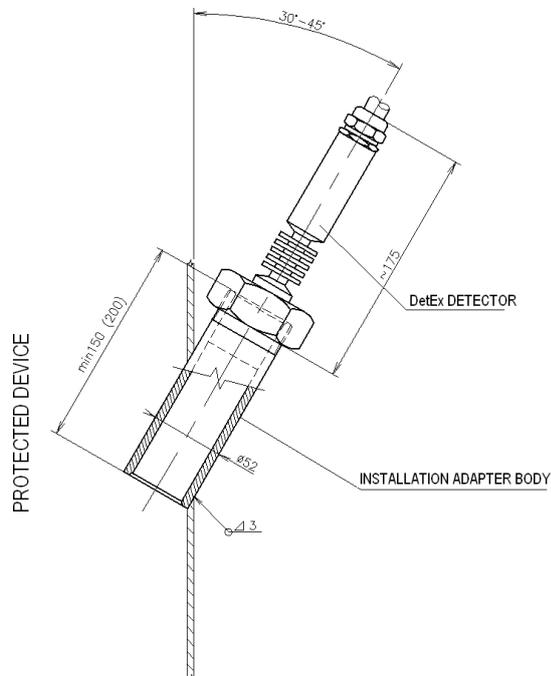

Fig. 2a)
- a) a vertical wall under the angle of 30-45° according to Figure 2a)